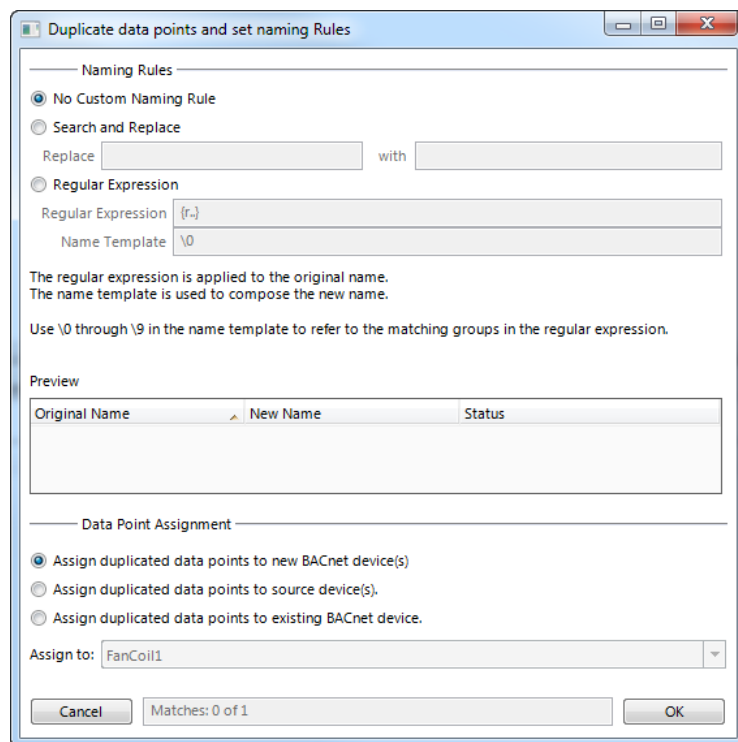

Figure 121: Duplicate BACnet devices.
3. The **Duplicate data points and set naming rules** dialog opens as shown in Figure 121.